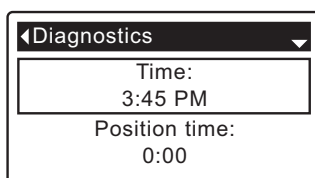

FIG. 88
8. Press the SELECT (O) button to display the Diagnostics screen (See Figure 88).